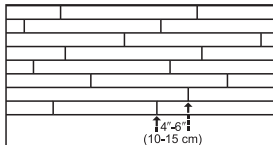

Figure 4 Preferred Alignment
- Be attentive to staggering the ends of boards at least 4"-6" (10-15 cm), when possible, in adjacent rows (Figure 4). This staggering pattern will help ensure a more favorable overall appearance of the floor.
- Check for a tight fit between all edges and ends of each plank. End-joints of adjacent rows should be staggered 4'-6" (10-15 cm) when possible, to ensure a more favorable overall appearance (Figure 4).